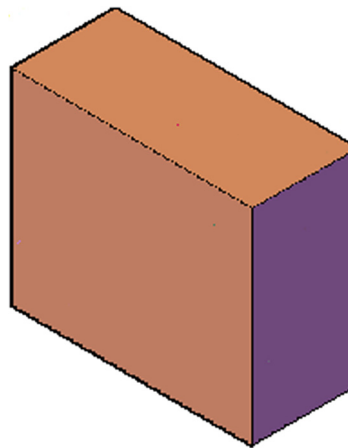

FIGURE 23.18
Step 4. Drag your mouse up (or enter a value) and the shape is automatically extruded into a cube, as seen in Figure 23.18.